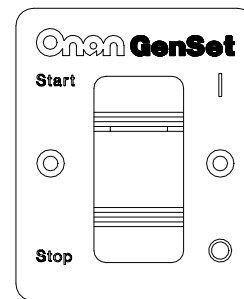

FIGURE 4. REMOTE START/STOP
- Remote switch with indicator lamp only (Figure 4).